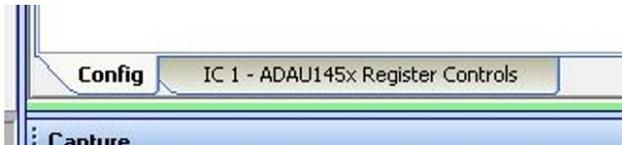
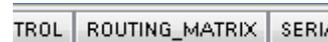

Figure 34. Selecting the IC 1 - ADAU145x Register Controls Tab
Figure 39. Selecting the ROUTING_MATRIX Tab
- Click the **Hardware Configuration** tab, then click the **IC 1 - ADAU145x Register Controls** tab at the bottom of the window (see Figure 34).
3. Click the **ROUTING_MATRIX** tab in the register controls tab shown in Figure 34 to allow users to configure the routing matrix (see Figure 39).